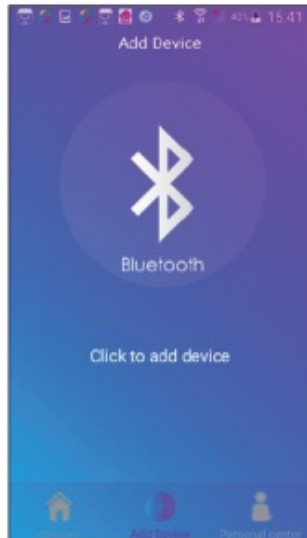

Figure 2
Step 4. Select the access mode and enter wi-fi and Bluetooth® info as needed (fig. 2). The unit may beep and the “WIFI” light should start blinking; after which, the app should begin pairing.